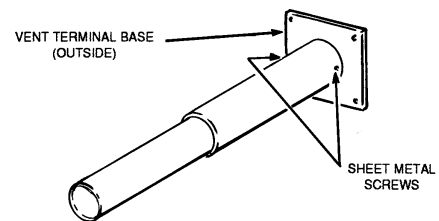

FIGURE 11
7. Attach the 5 inch main tube to the vent terminal base. Drill a 1/8 inch hole through the tube into the collar of the base. Secure with a #8 sheet metal screw, furnished. Repeat with a second hole and screw approximately 180° from the first. Reinstall the 5 inch inner sliding section at its maximum extended length, 19-3/4 inches. See figure 11.